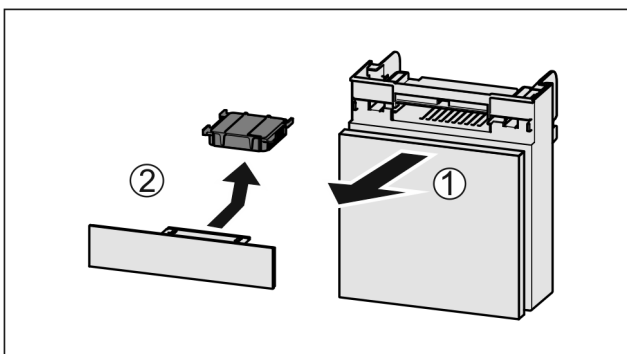

Fig. 119
- Pull out the compartment Fig. 119 (1).
- Remove the carbon filter Fig. 119 (2).